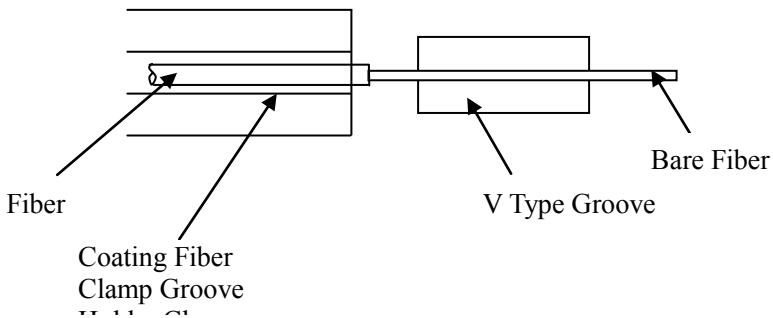

Figure 6-1
- Power on the OFFS, and fix the fibers following figure 6-1 and figure 2-2. The cleave length of bare fiber should be 10mm~16mm, and the bare fiber should be put in the V type groove, Cladding Fiber Holder Clamp hold down the fiber. The fiber will be seen in the middle of the screen, don't overlap.